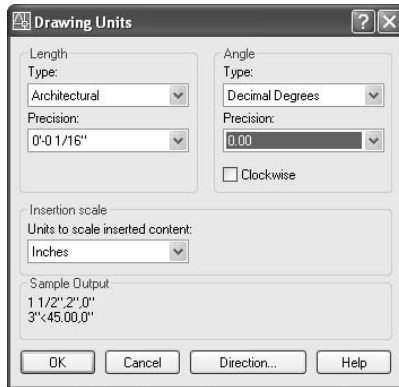

FIGURE 3.3 : The Drawing Units dialog box after changes
2. Click 0.00. The Drawing Units dialog box will now indicate that, in your drawing, you plan to use Architectural units with a precision of $\frac{1}{16}$ " and Decimal angular units with a precision of 0.00 (see Figure 3.3).